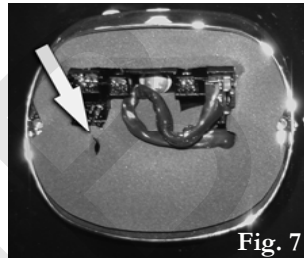

Fig. 7
- 5b Follow steps 1 thru 5. After the gaskets are installed, utilize the knock-outs previously removed in step 3 to seal the area in the flange where no wires are present on each side. (See figures 7 & 8)